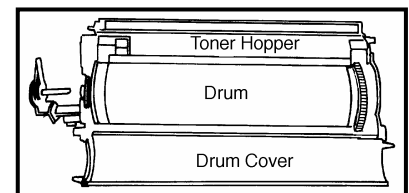

Figure 4
8. Remove the OPC drum (Fig. 4). Move the drum cover towards you to expose the drum and slide the drum to the left and lift out. Clean, inspect, and lubricate the drum and store in a dark place. Replace if necessary, if replacement is required, then perform the following to remove the OEM gears: